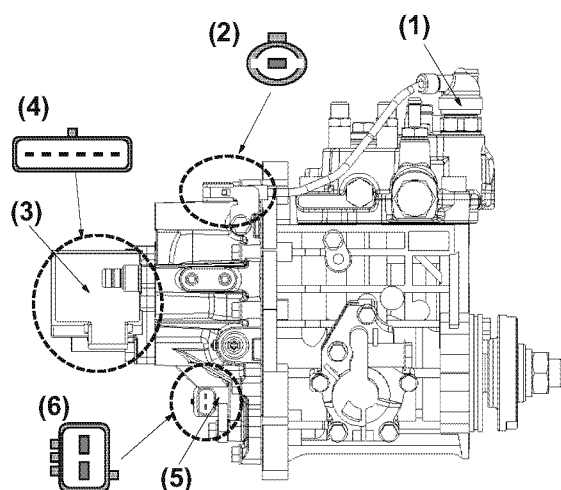

Figure 7-2
- When the cold start device is activated, you may notice a slight increase in the exhaust smoke of the engine during engine warm-up. Electronically controlled engines 3TNV84T-Z, 4TNV84T-Z, 4TNV98-Z, 4TNV98-E, and 4TNV98T-Z use a cold start device (CSD) that consists of a fuel injection pump complete with a solenoid valve (**Figure 7-2, (1)**).
Electronically controlled engines 4TNV84T-Z, 4TNV98-Z, 4TNV98-E, and 4TNV98T-Z are equipped with an electronically controlled governor called "Eco Governor". Combined with the rack actuator (**Figure 7-2, (3)**), engine speed sensor (**Figure 7-2, (5)**), and other parts, the electronically controlled governor communicates with the engine controller (E-ECU), whereby the engine speed and fuel injection rate are controlled.